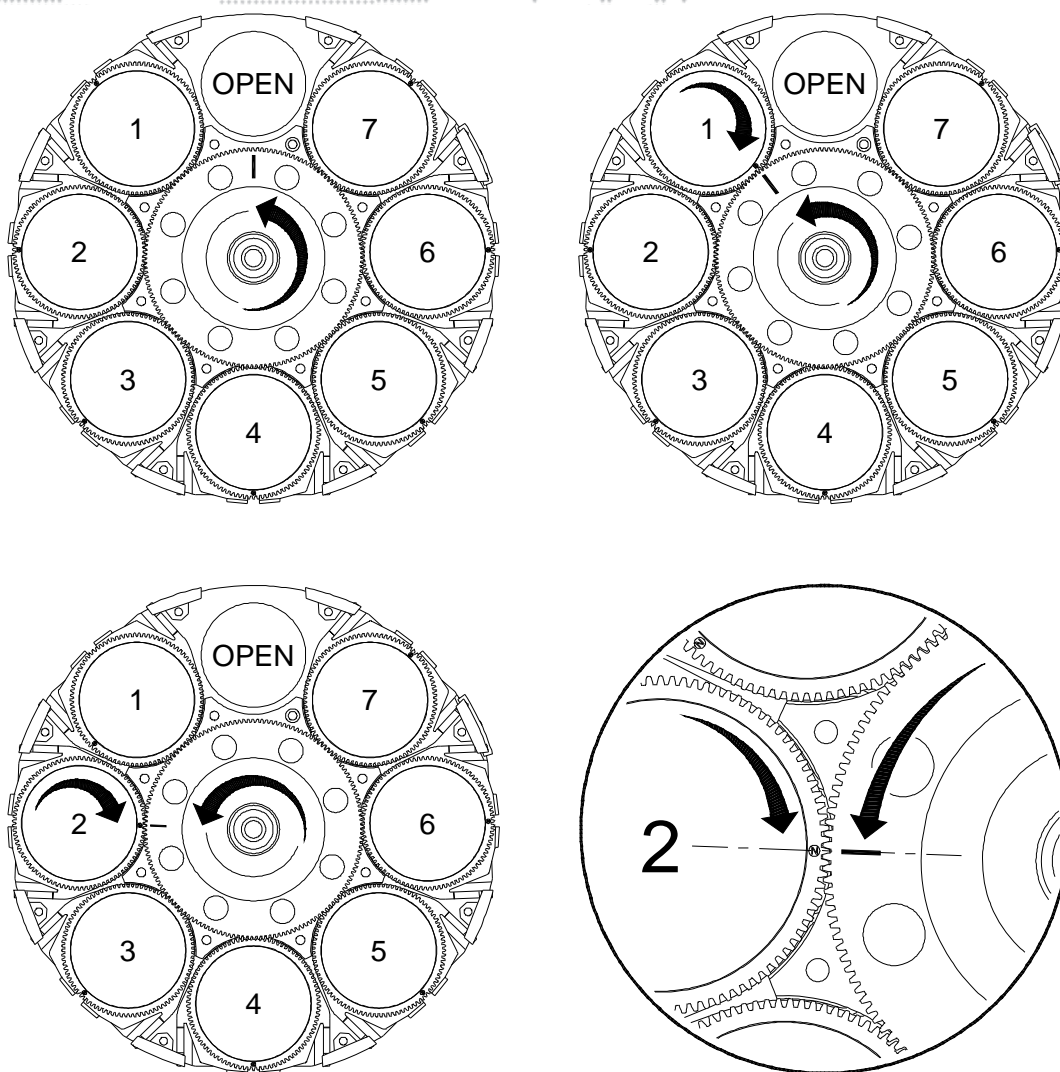

**Figure 4-11: Replacing a Gobo**
Step 5. Using fingers, grasp frame of gobo and pull out of wheel (**Figure 4-11**).